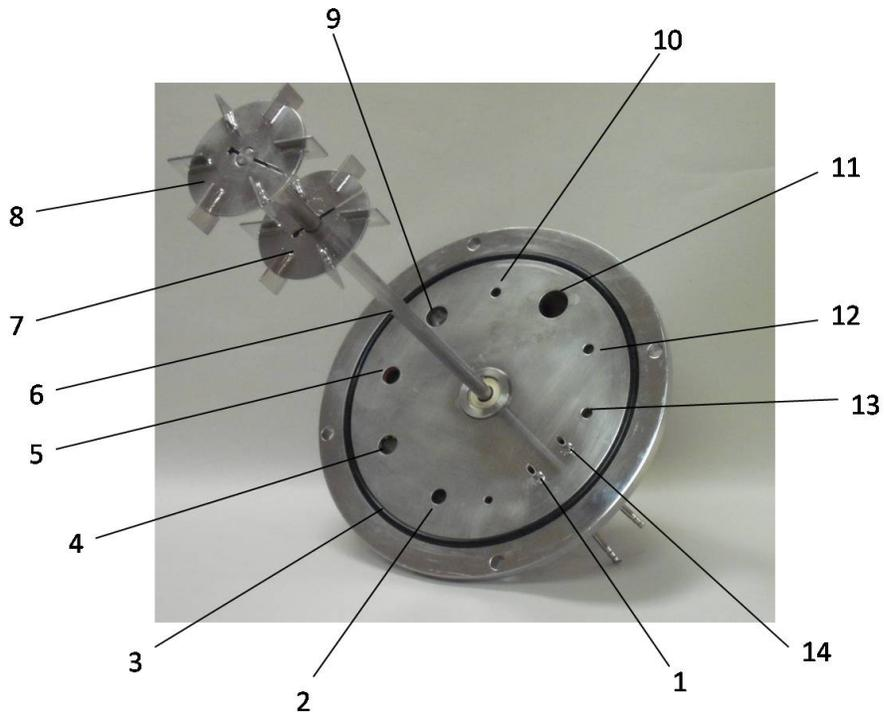

Figure 3: Headplate, Underside
- 9.3. Figure 3: Headplate, Underside